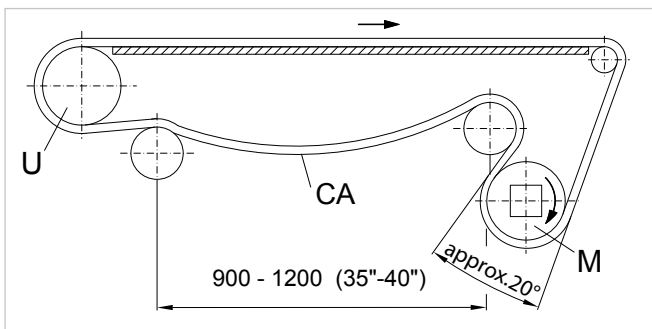

Figure 130
- **Lower head drive (Fig. 130)**